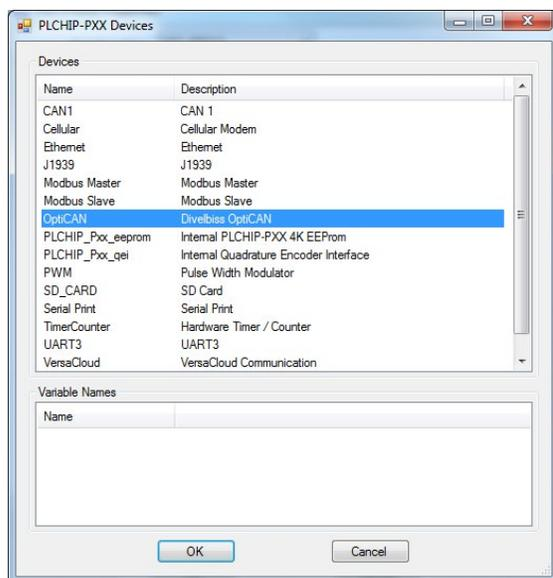

Figure 2-53 - PLCHIP-PXX Devices - OptiCAN
- Click / select **OptiCAN** (highlight). Refer to Figure 2-53.